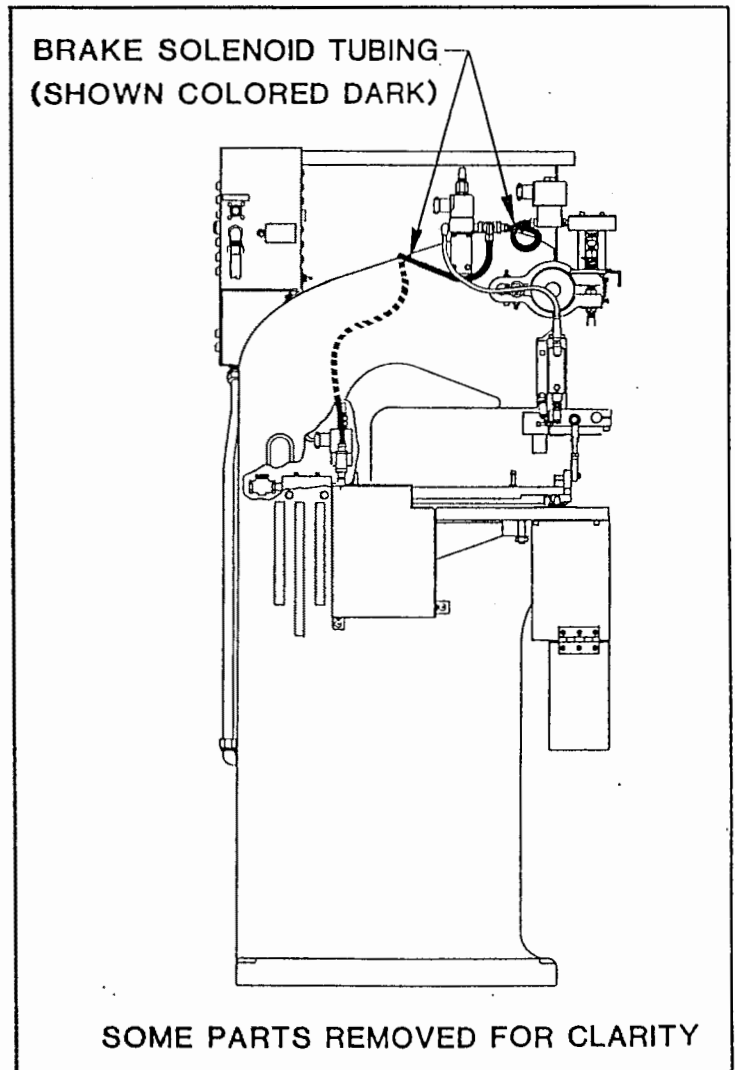

Figure 8.3 H
3. Unscrew brake guard screws (113) with 3/16" hex wrench.
4. Unhook brake guard (117) from press. Brake guard has two hooks that hook onto top of press.
5. Inspect brake solenoid tubing. See Figure 8.3 H. If tubing is disconnected, reconnect it, reattach brake guard, and install electronics package according to steps 11-14 in Section 8.1.4. If tubing is OK, reattach brake guard, install electronics package according to steps 11-14 in Section 8.1.4, and continue to follow troubleshooting chart.